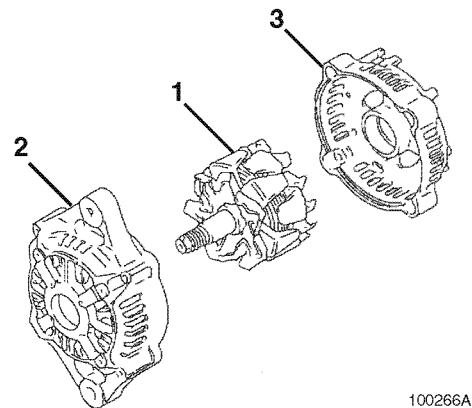
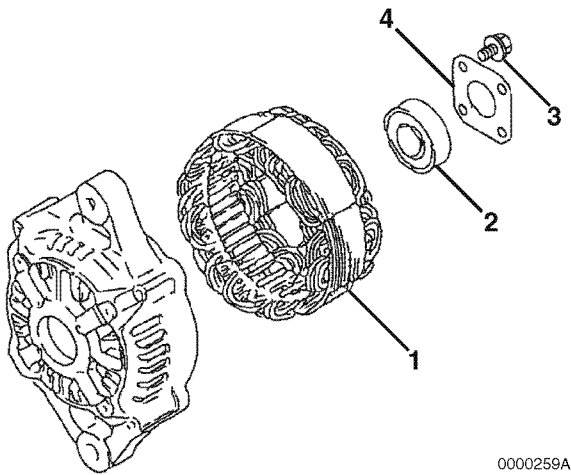

Figure 11-9
Figure 11-10
- Using a press, remove the rotor assembly (Figure 11-9, (1)) from the front frame housing (Figure 11-9, (2)) and rear frame housing (Figure 11-10, (1)).
- Remove the stator assembly (Figure 11-10, (1)) from the front frame housing.
- If it is necessary to replace the bearing (Figure 11-10, (2)) in the front frame housing, remove the four bolts (Figure 11-10, (3)) securing the plate (Figure 11-10, (4)) to the front frame housing. Remove the plate. Use a puller to remove the bearing. Discard the bearing.